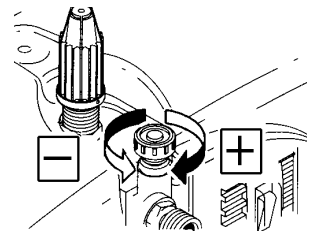

fig 9
- 4.4.3. The detergent strength can be adjusted by turning the detergent control knob (fig 9).